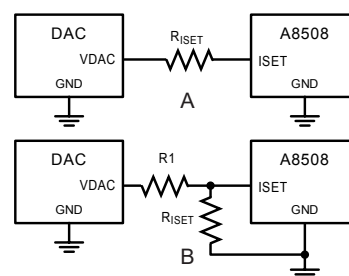

Figure 17. Typical application simplified diagram of voltage LED current control using a DAC to control LED current.
The A8508 can also be dimmed by using an external DAC or other voltage source applied either directly to the ground side of the RISET resistor or through an external resistor to the ISET pin (see figure 17). The ISET current can be varied in the range between 34 µA and 130 µA.
- For a single-resistor configuration (panel A of figure 17), the ISET current is controlled by the following formula:
- For a dual-resistor configuration (panel B of figure 17), the ISET current is controlled by the following formula: